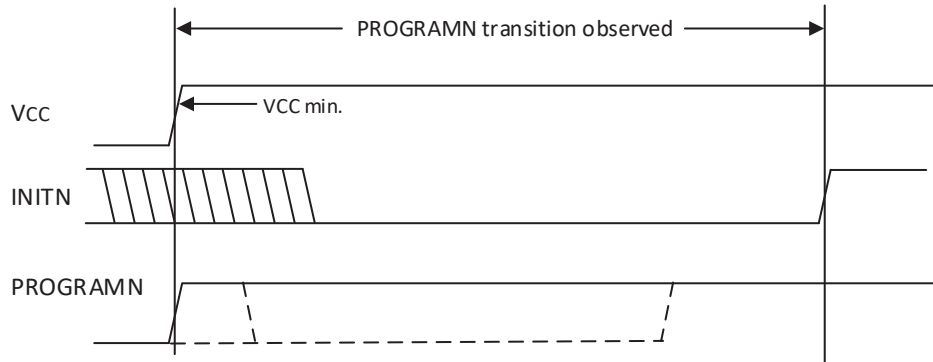

Figure 4.5. Period PROGRAMN is Always Observed
- PROGRAMN is active during power-up, even when it is reserved as a general-purpose I/O. Do not allow any input signal attached to PROGRAMN to transition from high-to-low at a frequency greater than the VCC (min) to INITN rising edge period. High to low PROGRAMN assertions more frequently prevent the MachXO3D device from configuring, causing the FPGA to remain in a continuous RESET condition. See Figure 4.5.